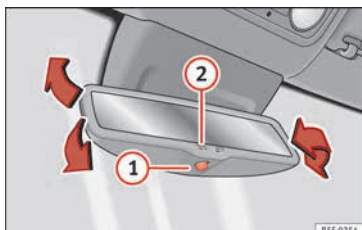

Fig. 19 Automatic anti-dazzle interior rear vision mirror.
- Switching on the automatic anti-dazzle function: press the ① » » » **Fig. 19** button. The ② warning lamp lights up and, in bright light, the rear view mirror darkens.